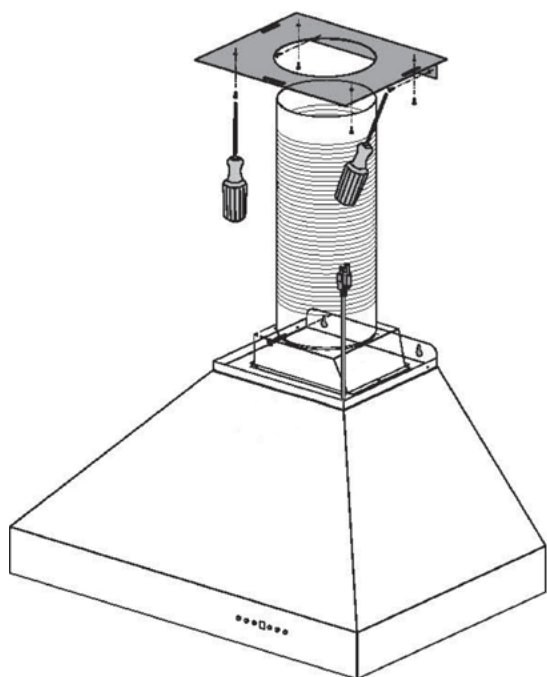

Figure 9
1. Secure the crown molding bracket to the ceiling directly above the range hood by using the hardware provided with the crown molding (note: for crown molding installs, the top chimney mounting bracket is not needed). *Figure 9*